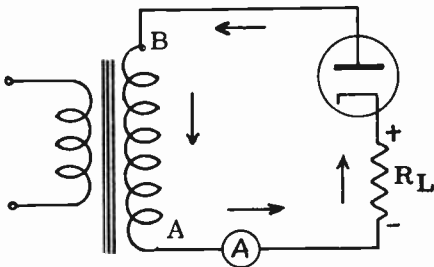
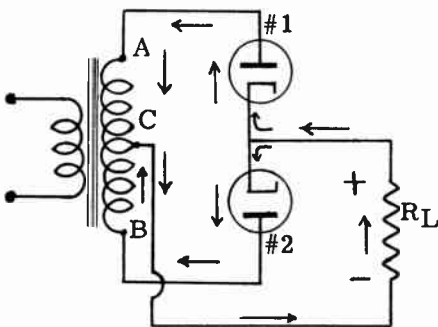
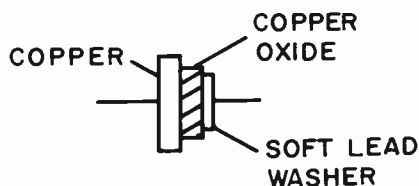

FIG. 7-1. DIODE USED AS HALF-WAVE RECTIFIER.
FIG. 7-3.
FIG. 7-5A. COPPER OXIDE RECTIFIER.
The ability of the diode to pass current in only one direction makes it possible to convert alternating current into pulsating direct current. Let us see how this is done. Fig. 7-1 illustrates a simple diode rectifier circuit. When terminal B of the transformer is positive with respect to terminal A, the diode plate becomes positive with respect to its cathode. The diode therefore conducts current in the direction indicated by the arrows. The DC milliammeter will deflect to the value of the current flow.
Fig. 7-3 illustrates a full-wave rectifier. Another diode and a transformer secondary center-tap have been added to Fig. 7-1.
- (1) The full-wave system is twice as efficient as the half-wave system.
- (2) The current flowing in the half-wave system is only in one direction, which tends to saturate the transformer core with residual magnetism.
- (3) Each diode in the full-wave system needs only half the total load current rating of the diode used in a half-wave system.
- (4) The output of a full wave rectifier has a higher AC ripple frequency than a half wave rectifier. We will see in a later section of this lesson, that this results in a purer DC output for the full wave system.
**3 COPPER-OXIDE.** The full wave rectifier circuit of Fig. 7-3 uses high vacuum diode tubes as the actual rectifiers. There are a number of "dry-metal" or "junction" type rectifiers that can function in a manner similar to the diode rectifier tube. One such type is the COPPER-OXIDE RECTIFIER. See Fig. 7-5A. It consists of a copper disc in contact with copper oxide. It is found that electrons will flow from the copper to the copper oxide, but not the other way. This unidirectional characteristic allows it to be used as a rectifier.